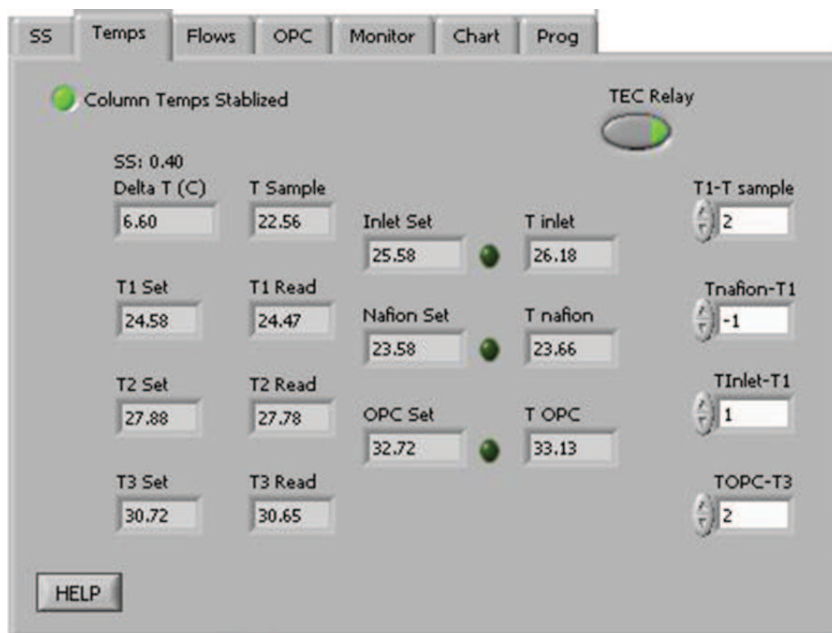

Figure 30: Temperature Tab Screen Showing Temperature Set Points and Read-Outs the CCN Temperatures
The **Temps** tab contains heater and temperature indicators and controls, as shown in Figure 30. *Note: To manually set the temperature gradient, Delta T Set (C), use the SS Tab.*